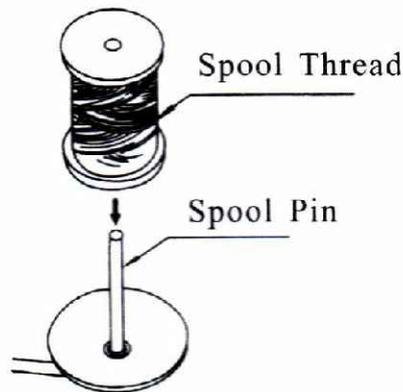

Fig.10
- B. When using spool thread, remove plastic cup before placing spool on thread stand( Fig.10)